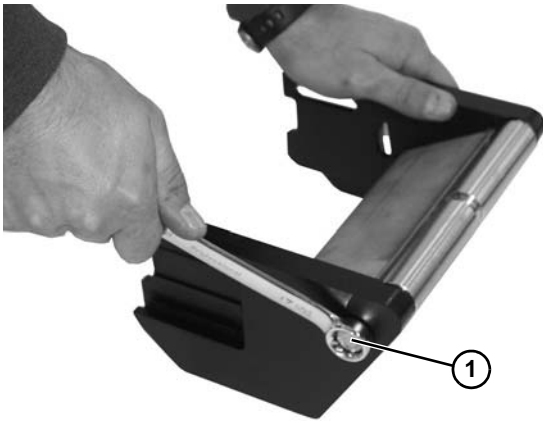

Figure 50
- Remove head plate bolt (Figure 50, item 1) from each side.